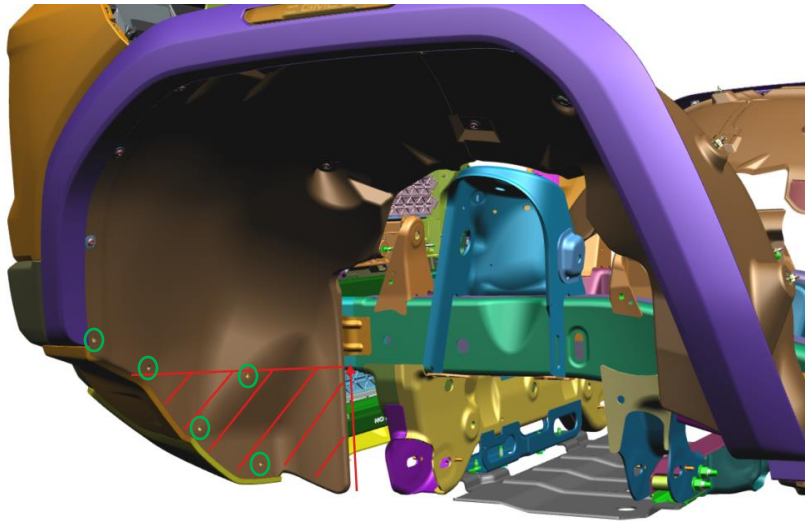

Figure 1 – Driver-side Wheel Liner Trim
- c. Trim along straight line and discard bottom portion eliminating 4 hole locations. – Fig. 1